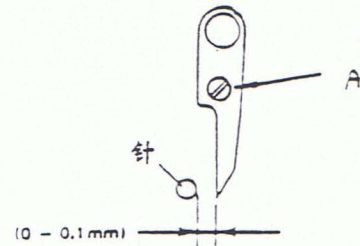

Fig.8
10) Setting of needle guard (Fig.8)